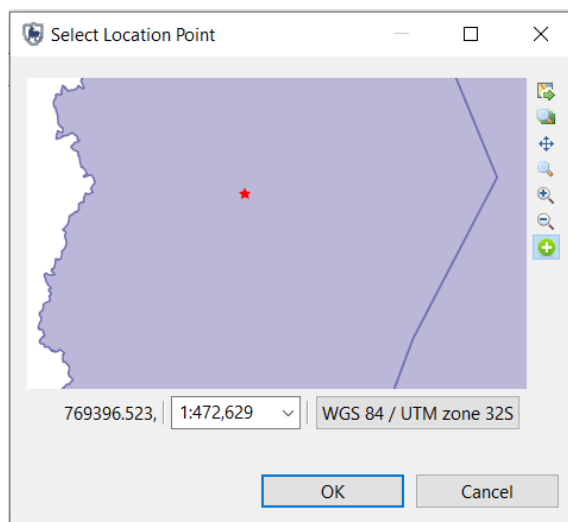

Figure 3.11: Changing a station's position on the map
- **Properties:** List of associated attributes with the ability to change their values. At the top of this section is **Position** which displays the station's coordinates. You can change the stations' coordinates either by manually deleting and re-entering values or by pressing **map...** (the coordinates of a station should not be changed once it contains data, as this may conflict with geospatial metadata related to the sensor data). If you click on **map...** you will be shown the default Conservation Area map. By hovering your cursor over the map, the coordinates will update accordingly (enlarge the window to allow enough space to show all coordinate digits). To select the stations coordinates, press **⊕ click on a map to add new point** and then simply click the position of choice on the map. The selected position will be marked with a red star (Figure 3.11). To complete the selection, press **OK**. If any changes are not saved by pressing **💾 save changes** on the top right, you will be asked if you want to save your changes when exiting the tab.